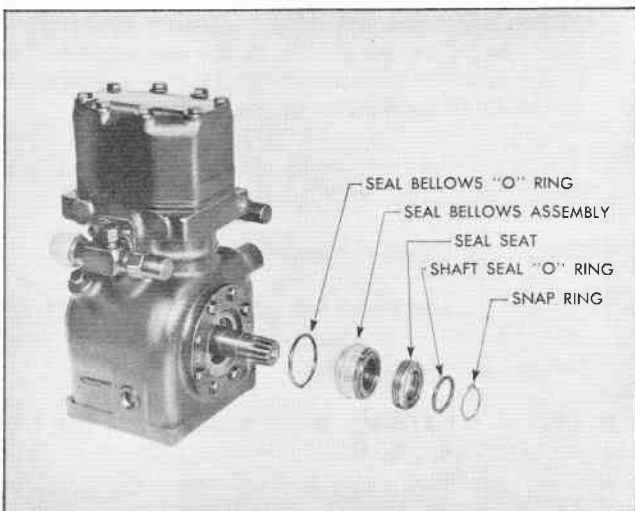

Fig. 8 Exploded View of Compressor Shaft Seal Assembly
1. Procure shaft seal kit #3134106 which contains one each of the following: Shaft Seal "O" Ring, Seal Seat, Seal Bellows "O" Ring, Snap Ring, Seal Bellows Assembly. These parts are illustrated in Fig. 8.